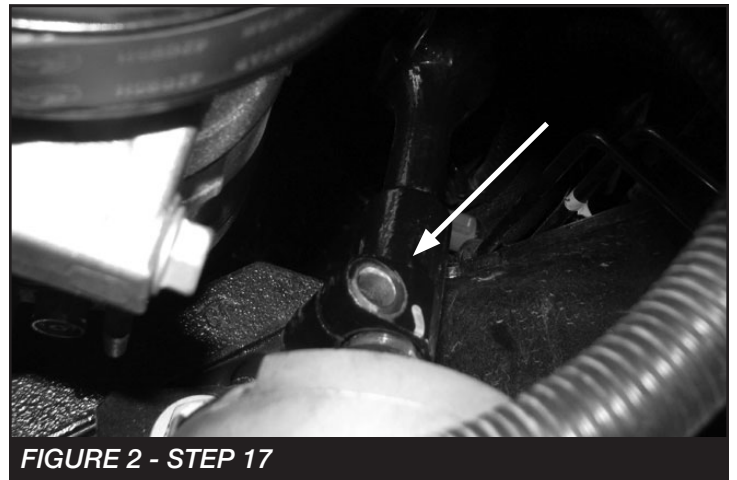

FIGURE 2 - STEP 17
17. **FOR DIESEL ENGINES ONLY:** Removal of steering rack is required to access bolt on top of differential. Unplug connectors on steering rack. Remove bolt that secures the steering shaft to the rack **SEE FIGURE 2**